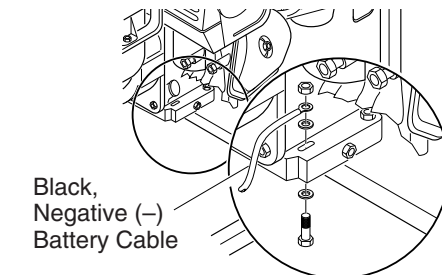

Figure 11 - Connecting Black, Negative (-) Battery Cable to Engine Block (Model MGH6500IE Shown)
2. Attach the black, negative (–) battery cable to the engine block. Use the bolt, nut, and two washers provided with the battery cables. Use long mounting hole on opposite side of engine from starter solenoid. Attach cable as shown in Figure 11.